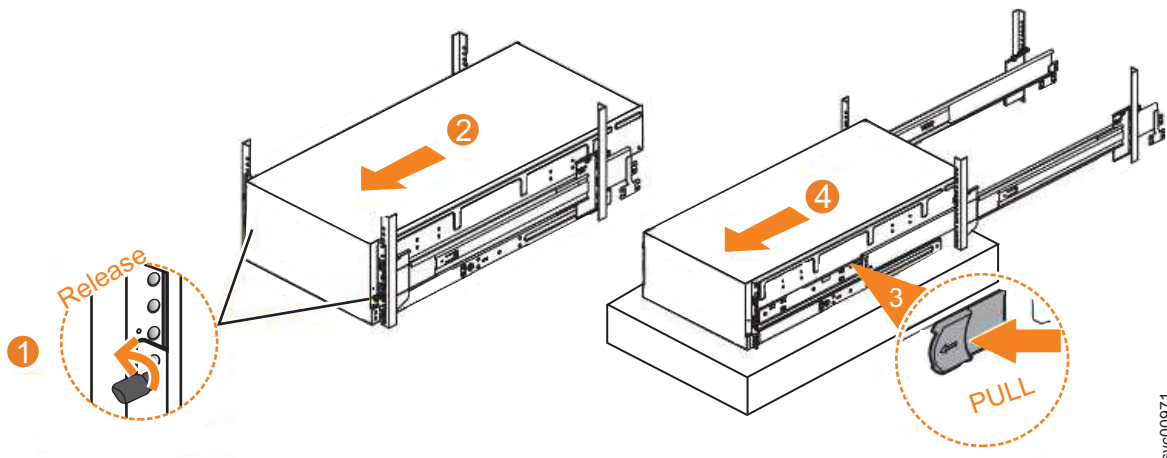

Figure 51. Removing the 2076-92F enclosure from the rack
1. Loosen the locking thumb screws ( **1** ) on the front of the enclosure, as shown in Figure 51.
2. Carefully slide the enclosure forward out of the rack ( **2** ), as shown in Figure 51.
3. Locate the left and right blue release tabs near the front of the enclosure. Pull both release tabs forward to unlock the drawer mechanism ( **3** in Figure 51).
4. Slide the enclosure and inner rail member out of the rack ( **4** in Figure 51).